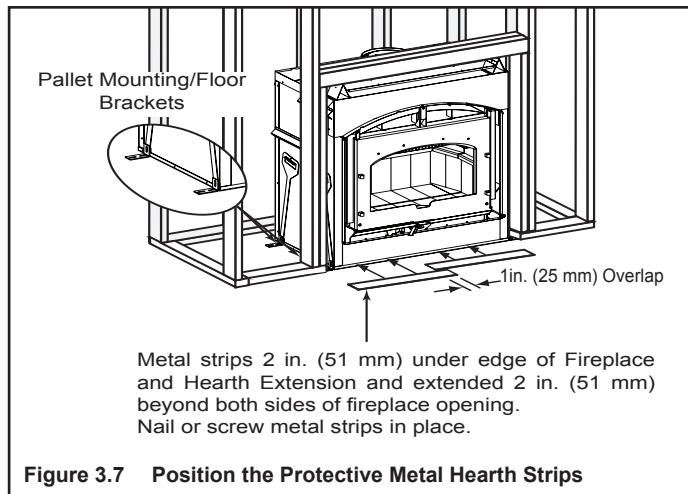

Figure 3.7 Position the Protective Metal Hearth Strips
- Metal strips must extend beyond the front and sides of the fireplace opening by at least 2 in. (51 mm), Figure 3.7.